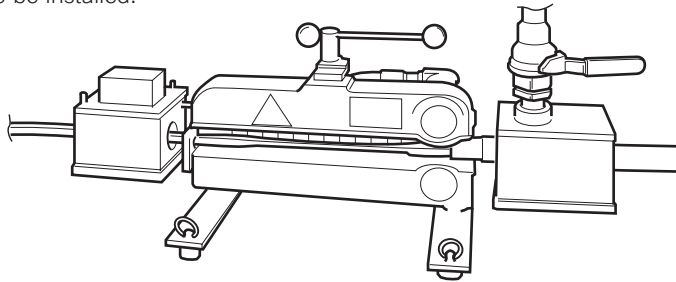

Figure 7 – SuperJet Bundle Jetting Machine
- A bundle jetting machine, such as SuperJet from Plumettaz, see Figure 7.